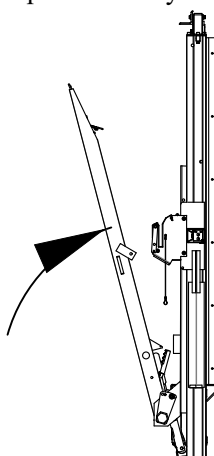

Figure 9: Step 12.
- Step 12. To close the platform, stand to the passenger's side of the platform, not under or behind the platform. With the platform lowered, engage the self-close mechanism and hold it in the engaged position while slowly raising the platform. After the platform begins to fold, step away from the lift and raise the platform until the latch ear is above the latch plate (Figure 9).